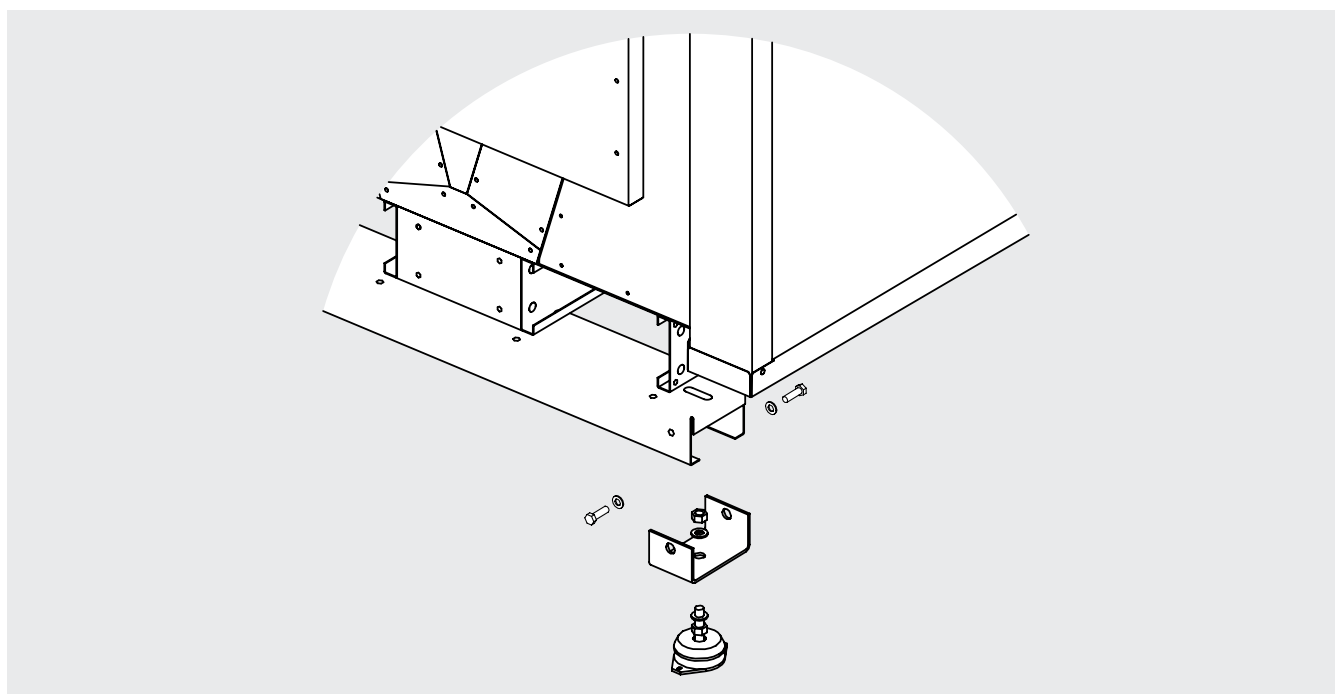

Figure 8
- 6.5 The model must be securely anchored to the support base, use all the fixing points. In order to prevent the transmission of noise. Possibly use shock absorbers. See Figure 8.